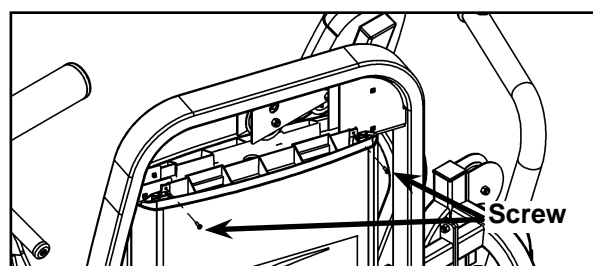

Figure 5
- G. Remove the top two screws securing the back shroud assembly. See Figure 5.